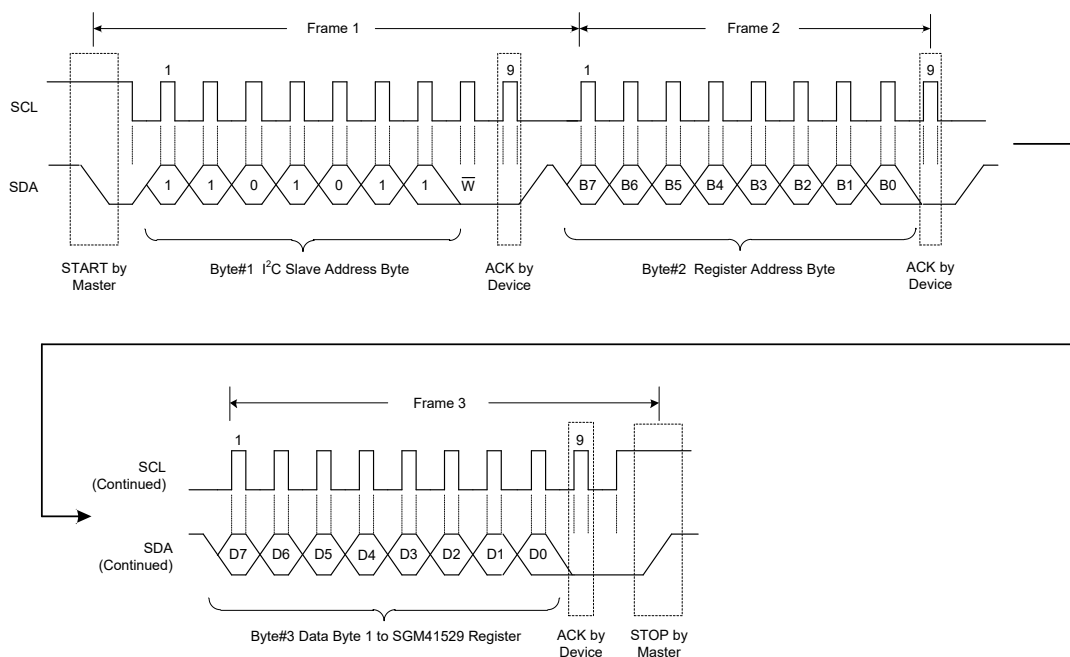

Figure 18. A Single Write Transaction
**WRITE:** If the master wants to write in the register, the third byte can be written directly as shown in Figure 18 for a single write data transfer. After receiving the ACK, the master may issue a STOP condition to end the transaction or send the next register data, which will be written to the next address in a slave as multi-write. A STOP is needed after sending the last data.